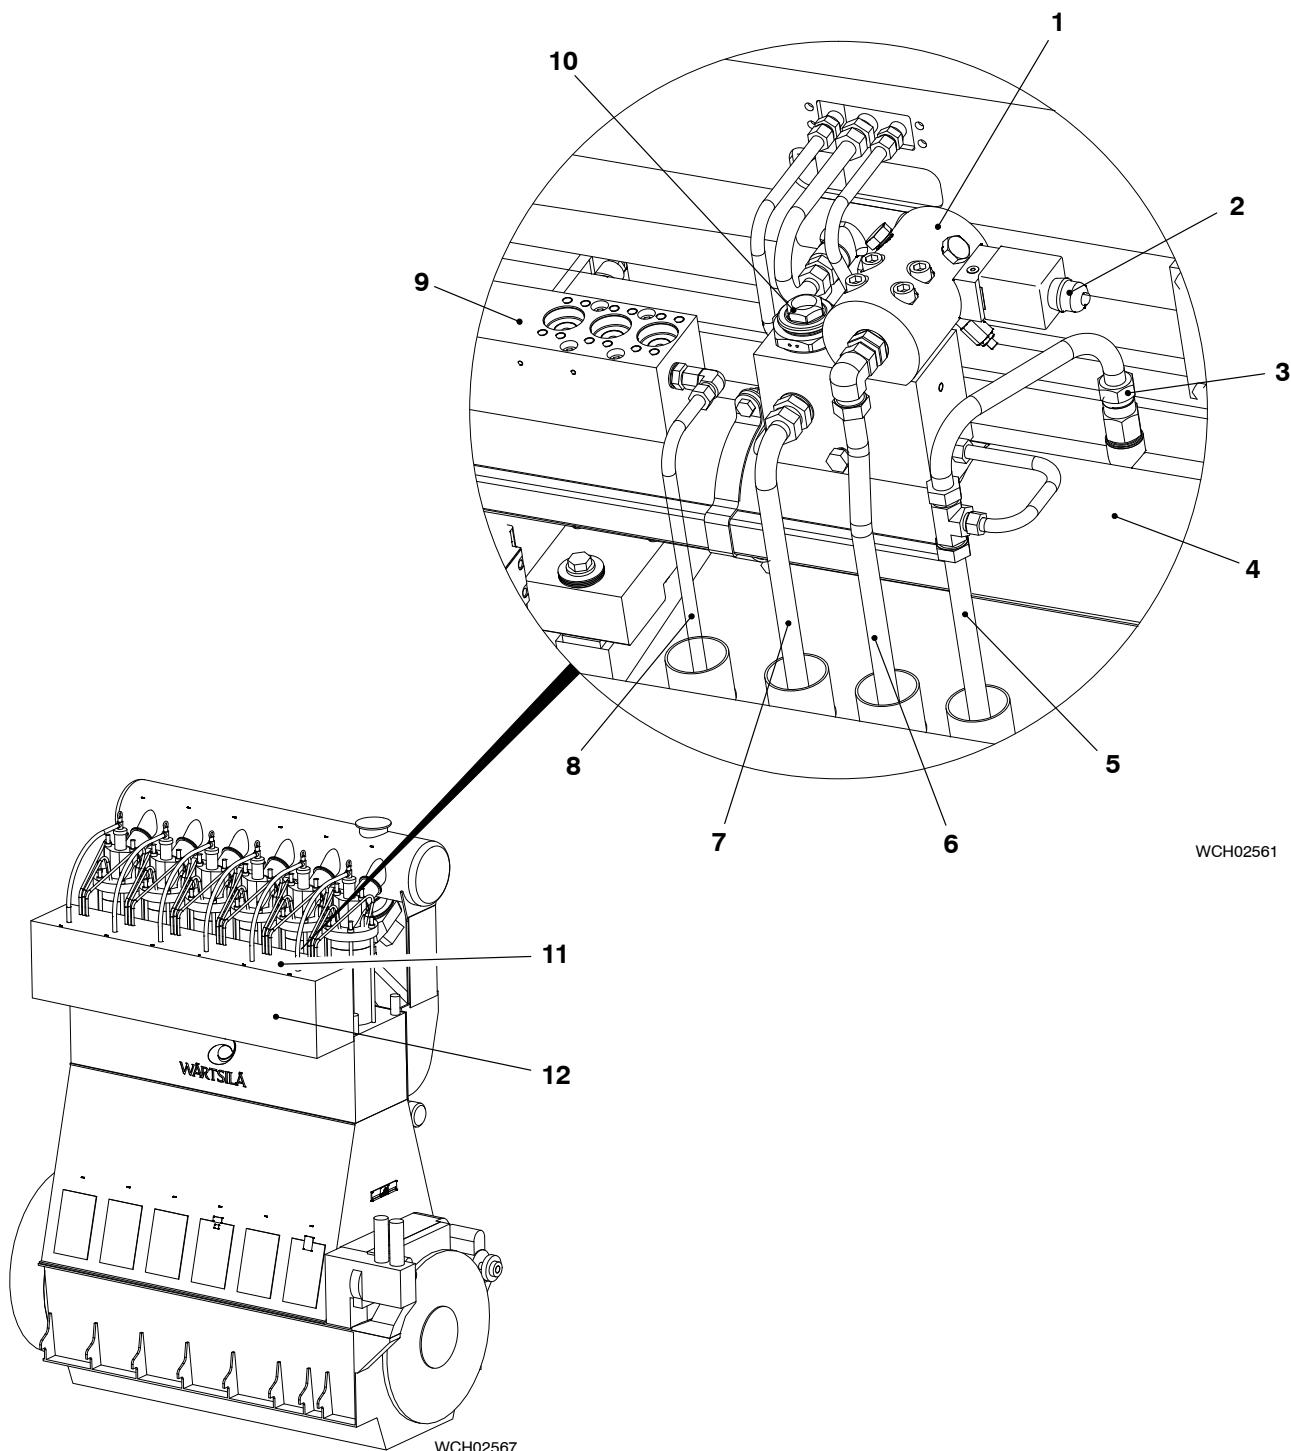

Fig. 4: Pressure Control Valve
- 2) If pressure decrease is unusually high during the air run, do a check of the pressure control valve (1) (see the procedure given in the Maintenance Manual 5562-1).
- 4) Open the cover (11) on the rail unit (12) (see Fig. 4)
- 5) Do a check for unusual noise from the pressure control valve (1).
- a) If you hear an unusual noise (a continuous sound like a whistle), stop the engine and do a check of the pressure control valve (1) (see the Maintenance Manual 5562-1).
- b) If necessary, replace the pressure control valve (1) immediately (see the Maintenance Manual 5562-1 Fuel Pressure Control Valve).
- 6) Do a check of the temperature of the fuel return pipe (6).
- a) If the fuel return pipe (6) is hot, stop the engine and do a check of the pressure control valve (1) (see the Maintenance Manual 5562-1).
- b) If necessary, replace the pressure control valve (1) immediately (see the Maintenance Manual 5562-1).
- 7) Close the cover (11) on the rail unit (12).